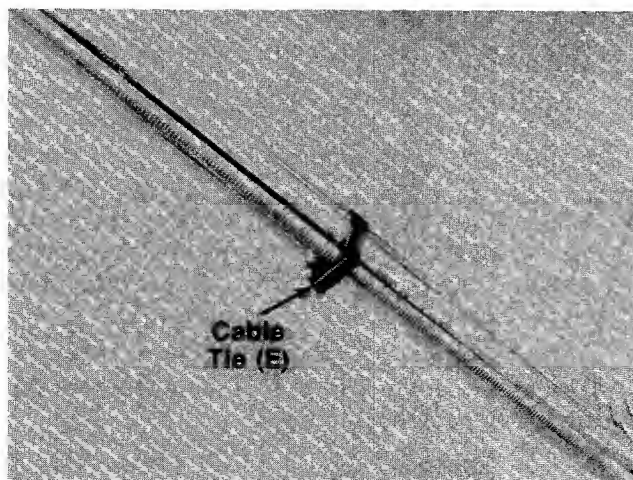

FIGURE 6.
- ← 6. Secure throttle control wire to upper and lower handles with cable ties (E). See figure 6.